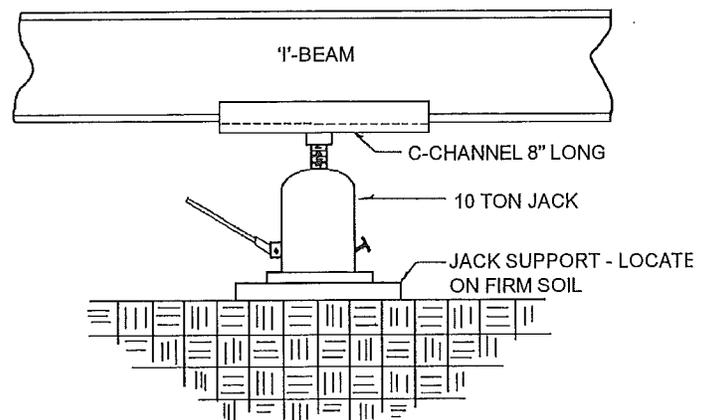

FIG. 5-1
2. Use a minute man C-Channel jacking plate or equivalent between jack and steel I-beam to distribute the concentrated loads. (See Figure 5-1)